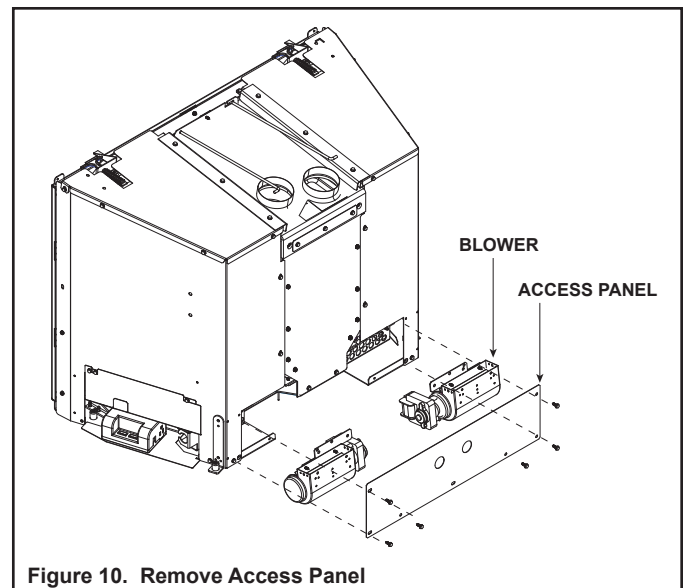

Figure 10. Remove Access Panel
3. Remove access panel from lower rear of the fireplace insert. See Figure 10.